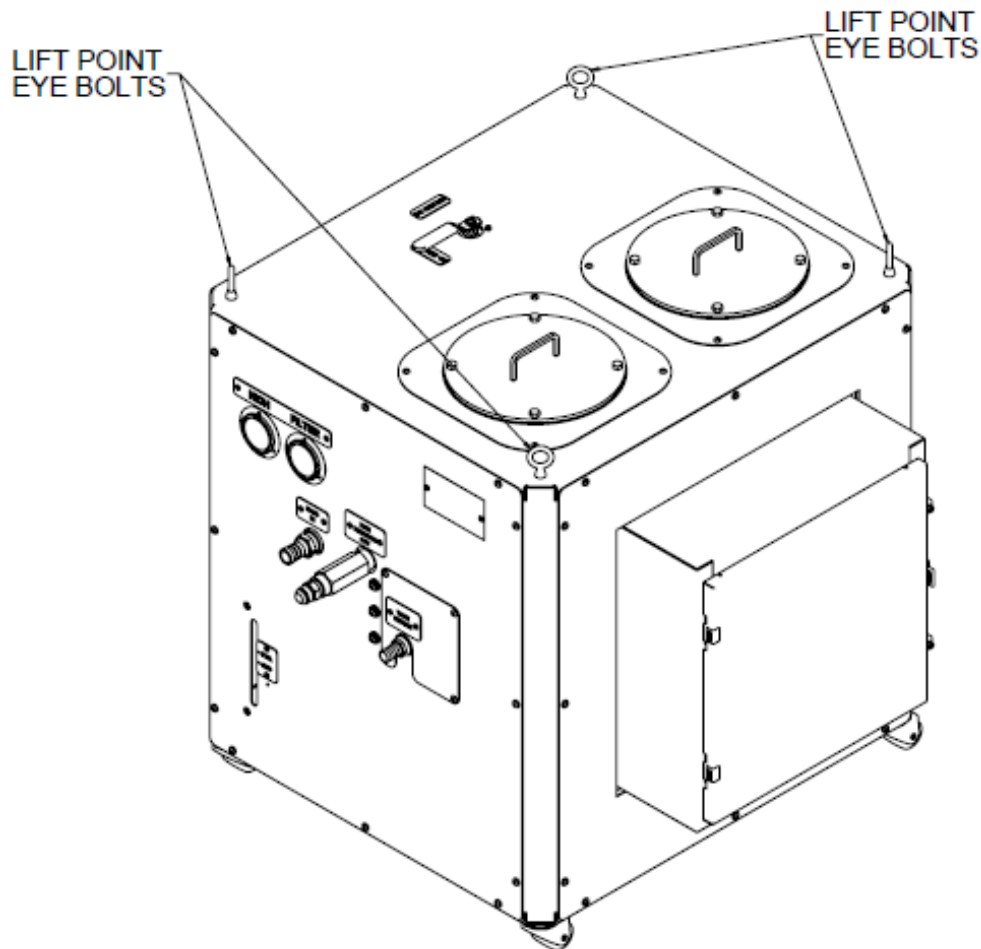

Figure 3.1.1
1. The FlexForce unit should **ONLY** be lifted using the corner eyebolts. Not doing so will result in damage to the machine. Refer to Figure 3.1.1.
2. The FlexForce unit must be kept within three (3) meters (10 Feet) of the machining center.
5. When lifting the FlexForce unit, locate and use the lifting points (*Figure 3.1.1*). Use the proper lifting straps (not supplied) and lift slowly.